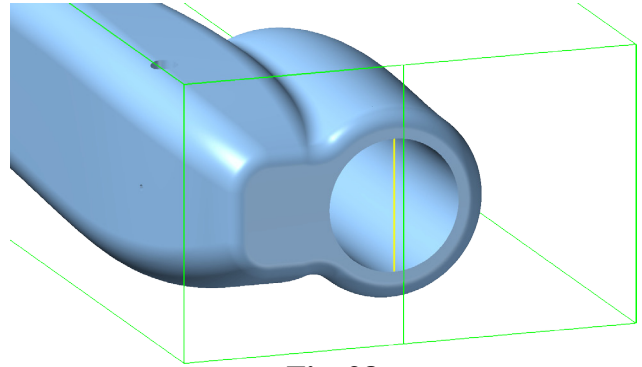

Fig. 28
- Step 2. Hold down middle mouse button (wheel) and drag to **rotate view** to view back of body as shown in **Fig. 28**. Use Page Up key to zoom in.
- Step 4. Draw a line across the cartridge hole. To draw line, snap cursor to side edge of hole at center on both sides of hole, **Fig. 28**.